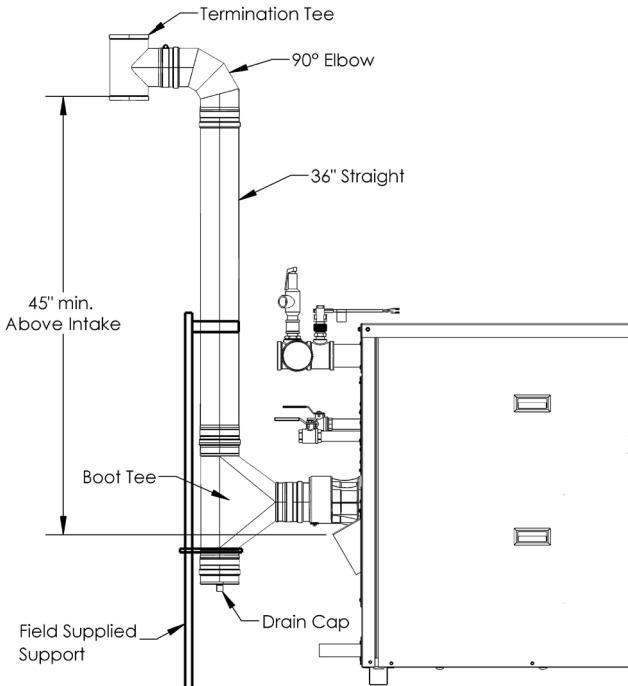

Figure 10: Outdoor Venting Installation
1. Recommended venting configuration for outdoor installation is shown in Figure 10